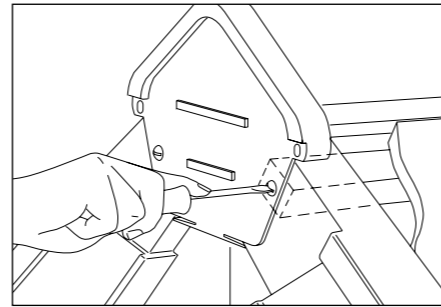

Fig. 15 – Screw ridge end cap
- 14 Screw ridge end cap through top course verge unit, to end of top course tiling batten. Locate 30mm stainless steel screw (provided) through lower, partly formed fixing holes (Fig. 15).